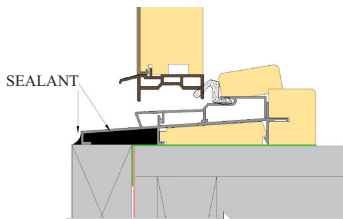

FIG. 24: OUTSWING SILL
- C) Apply silicone to seal each end of the sill cavity that protrudes from the rough opening. (Fig. 24 & 25)